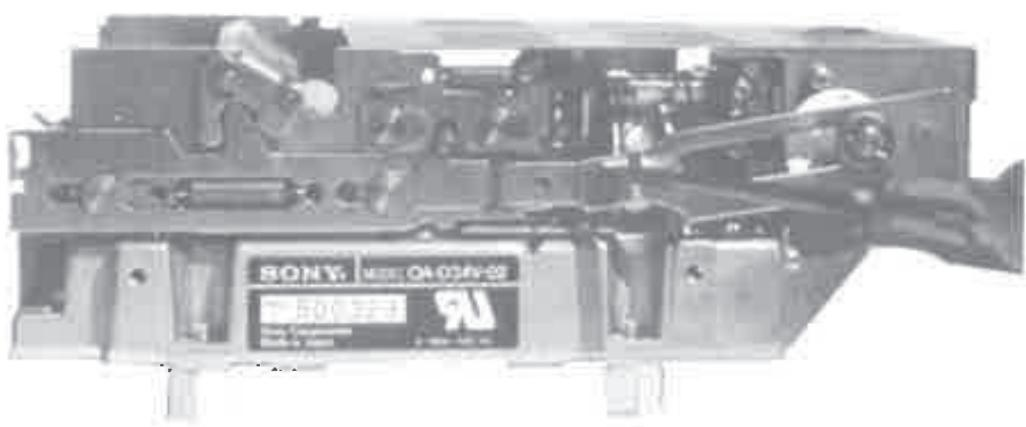

Figure 13-18 C-ring removal.
5. Use a small $\frac{1}{8}$ -inch slotted screwdriver to remove the C-ring shown in Figure 13-18.